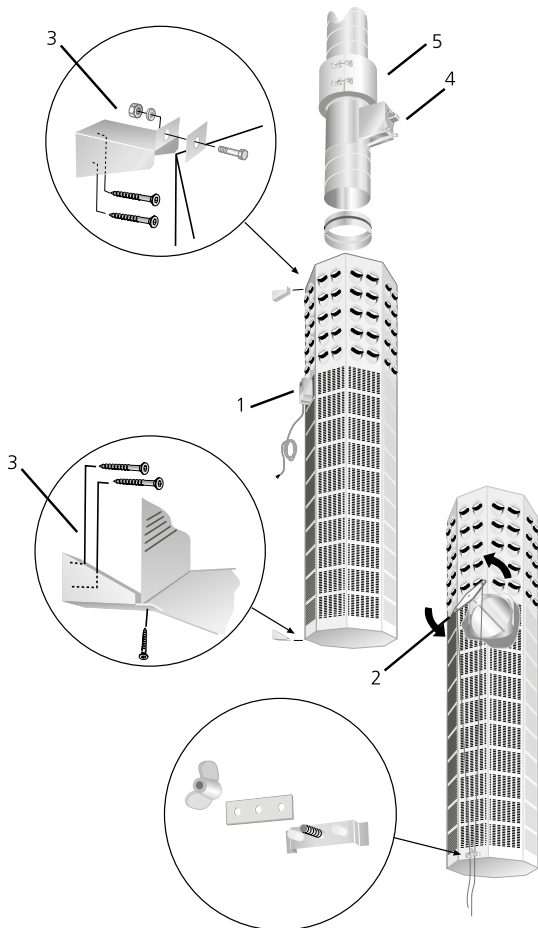

Figure 1. Installation.
The nozzle section and the perforated section are separated by a damper function. This is controlled by means of an electric motor (1) or manual control (2), see figure 1.
CRM1. Commissioning damper (4) with measuring unit for commissioning the air volume. See figure 1.
FSR (5). Clamp used for facilitating installation and removal of units. See figure 1.
Mounting brackets (3) are supplied. These are fastened to the wall and then to BOC. See figure 1.
The airflow is commissioned using the adjustable measuring unit (4) which is placed in the duct before the BOC unit. See figure 1.